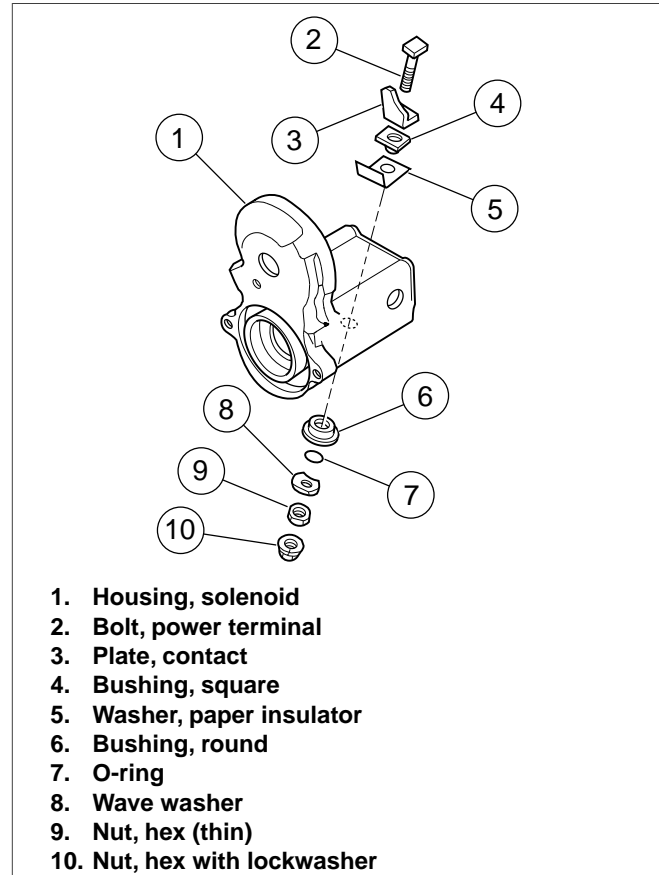

Figure 2. Power Terminal
1. *Kit 32-9347:* See Figure 2. Remove hex nut with lockwasher (10) from copper power terminal bolt (2).
2. *All Kits:* See Figure 2. Remove and discard power terminal nut (9), wave washer (8), O-ring (7), and round bushing (6).
3. Push copper bolt (2), contact plate (3), and bushing (4) out of solenoid housing (1). Discard bolt, contact plate, and bushing.
4. *Kit 32-9347:* See Figure 2. Remove and discard paper insulator washer (5).